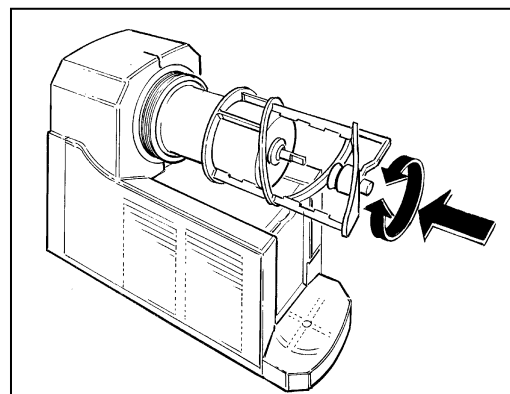

Fig. 14
- Reassemble the mixing unit making sure that the frontal cylinder perfectly fit inside its rotating shaft seat (fig.14).